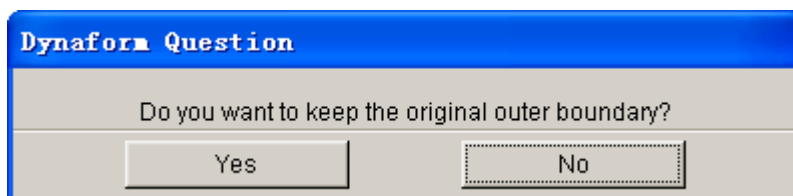

Figure 5.2.7 DYNAFORM Question dialog box
5. After the curve is defined or selected, select **EXIT**. The eta/DYNAFORM Question dialog box, as illustrated in Figure 5.2.7 appears.